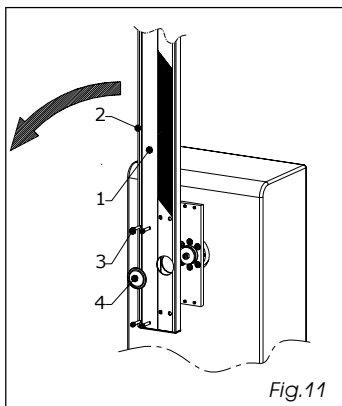

Fig.11
SPIN 3 - 4 (Fig.11)
- fit the beam, ref.1 fig.11.
**N.B.: The rubber profile, ref.2 fig.11 must face the closing direction.**
- screw the four supplied screws, ref. 3 fig.11.
- insert the hole plug, ref.4 fig.11.